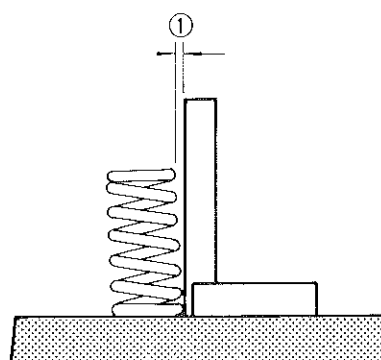

Fig. 4-73
Use a square and surface plate to check each spring for squareness in terms of the clearance ①, Fig. 4-73, between the end of valve spring and the square. Valve springs found to exhibit a larger clearance than the limit must be replaced.